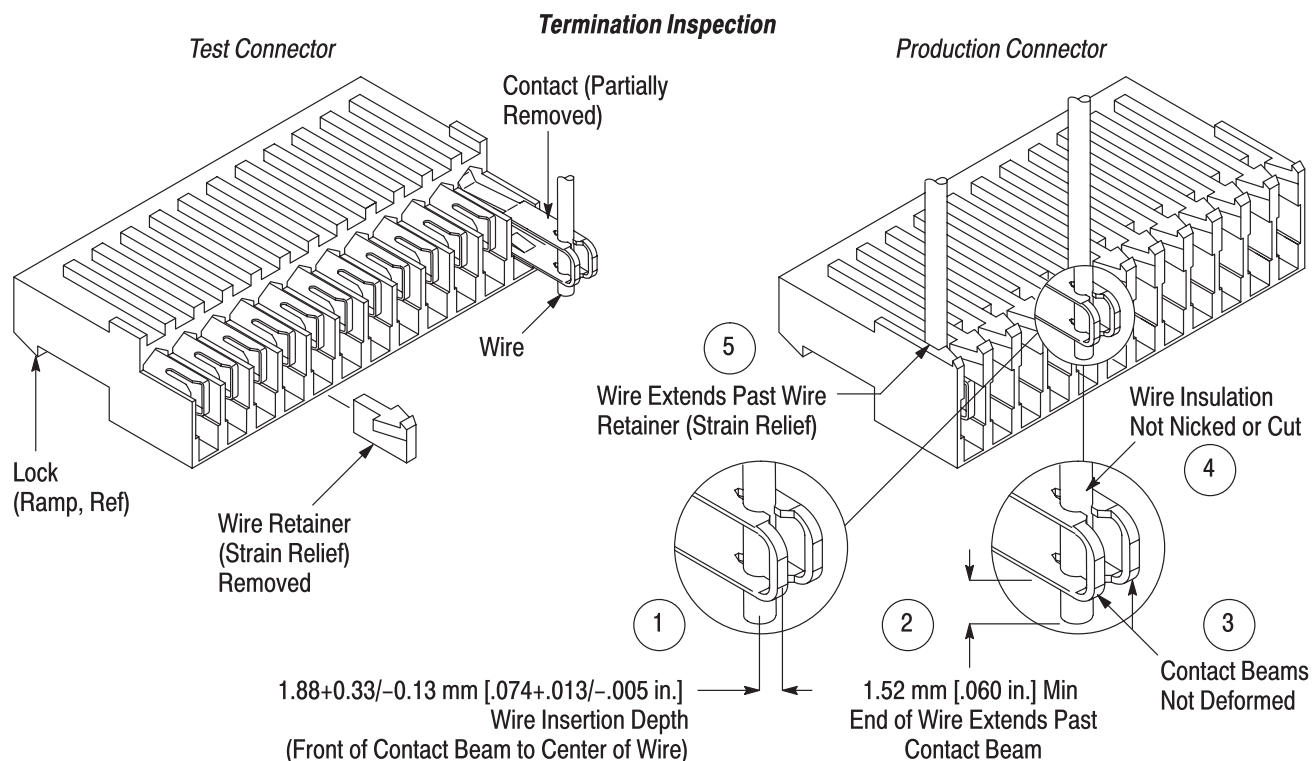

Figure 3
- Using a small knife, cut off the wire retainers (strain relief) of the connector. This will provide a clear view for inspecting the connector for a properly terminated wire in the contact. See Figure 3.
- Check that the wire insertion depth is within the dimension given in Figure 3.
NOTE To obtain the wire insertion depth, measure from the front of the contact beam to the center of the wire as shown in Figure 3 – or – measure from the front of the contact beam to the back of the wire and subtract the wire diameter divided by 2.
3.2. Termination Inspection (Refer to Figure 3)
- The required wire insertion depth is within the dimension given in Figure 3 (refer to Step 5 of Paragraph 3.1 for measurement).
- Modified Figure 3